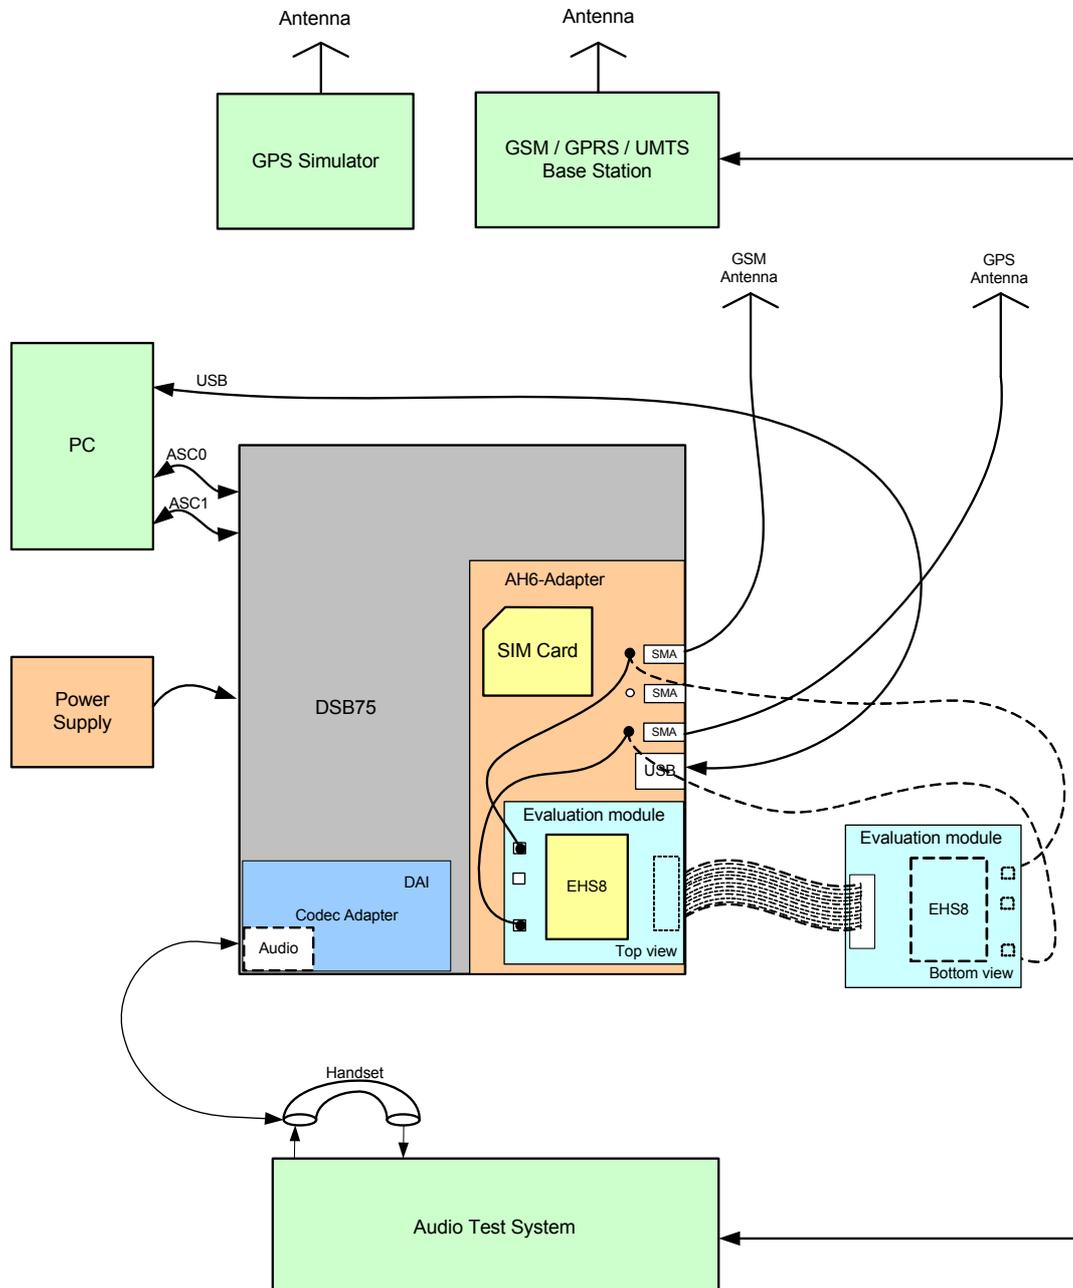

Figure 9: Reference equipment for Type Approval
1. For RF performance tests a mini-SMT/U.FL to SMA adapter with attached 6dB coaxial attenuator is chosen to connect the evaluation module directly to the GSM/UMTS/GPS test equipment instead of employing the SMA antenna connectors on the EHS8-DSB75 adapter as shown in Figure 9. The following products are recommended: